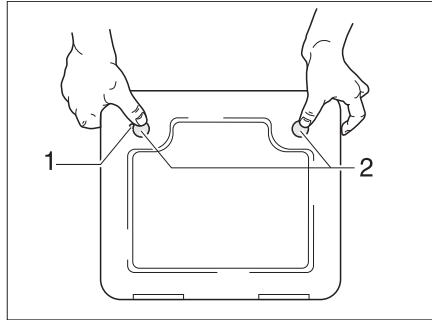

Fig. 350 Flap for the toilet cassette
- Open the flap for the cassette on the outside of the vehicle. Insert the key into the locking cylinder of the push-button lock (Fig. 350,1) and turn a quarter turn.
- Press both push-button locks (Fig. 350,2) simultaneously with your thumb and open the flap for the cassette.